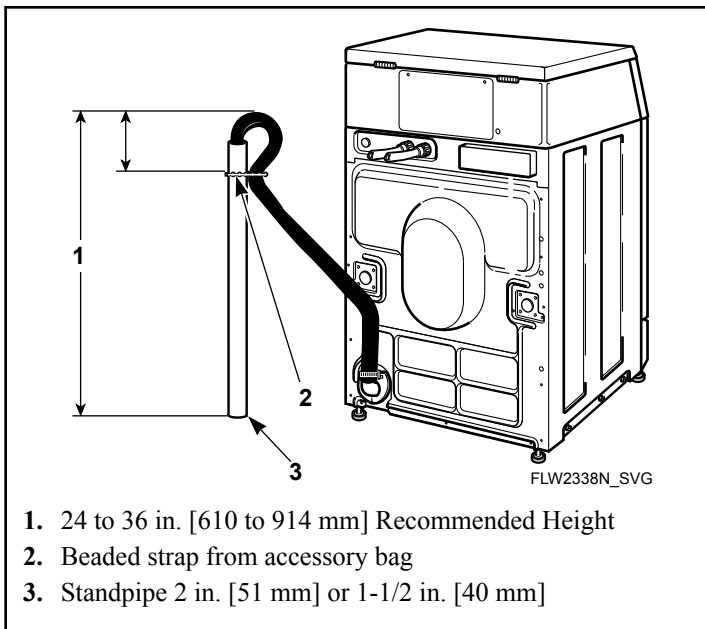

Figure 9
2. Remove the beaded tie-down strap from accessories bag and place around standpipe and drain hose and tighten strap to hold hose to standpipe. Refer to *Figure 9*. This will prevent the drain hose from dislodging from drain receptacle during use.